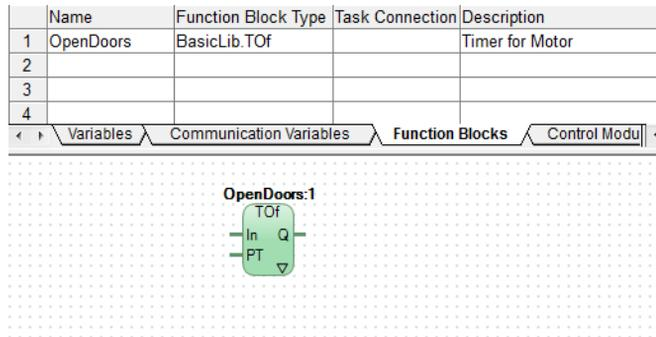

Figure 37. Declare TOF Function Block Type in Motors_Doors page
5. Click **Insert**, and then click **Close**. **OpenDoors** function block is inserted as in the Figure 37.